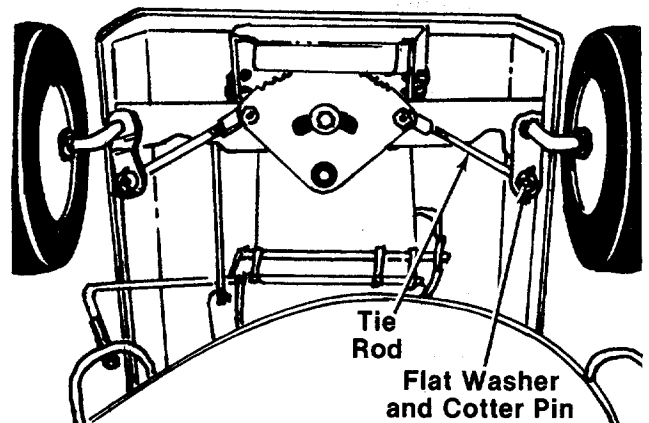

FIGURE 19.
The caster (forward slant of the king pin) and the camber (tilt of the wheels out at the top) require no adjustment. Automotive steering principles have been used to determine the caster and camber on the mower. The front wheels should toe-in  $\frac{1}{8}$  inch. See figure 19. To adjust, follow these steps:
1. Remove the cotter pin and flat washer which hold the tie rod to the axle bracket. See figure 19.